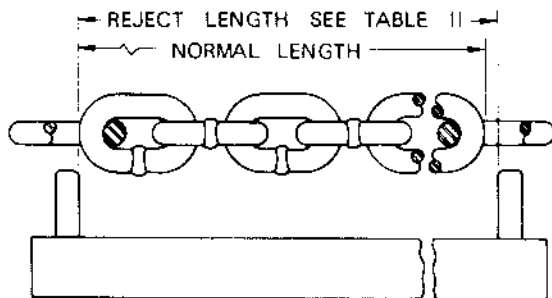

FIGURE 4-2. CHAIN SALVAGE GAUGE
a. Inspect the chain for "elongation", which is a condition caused by overloading or wear. Table II shows the normal and reject lengths for MA hoist chain. A chain gauge similar to that shown in figure 4-2 or a Vernier caliper may be used. Hang the chain up or stretch it out on a work table in a taut position. Place one edge of the gauge or caliper over the end of a chain link. The number of links within the gauge limits will correspond to the "Number of Links" as indicated in Table II. If the last link, which should be within the gauge limits, makes contact or extends past the inside edge of the gauge, or if the reading of the